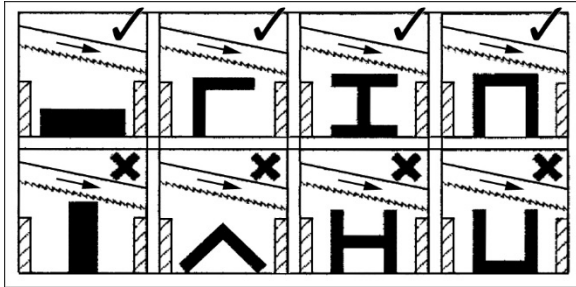

Figure 23: clamping positions
- Position workpiece in vise and tighten vise. Workpiece should be fitted directly between jaws without adding other objects. When workpiece is profiled section, flat piece or special shape, refer to examples in Figure 23 for proper clamping positions.